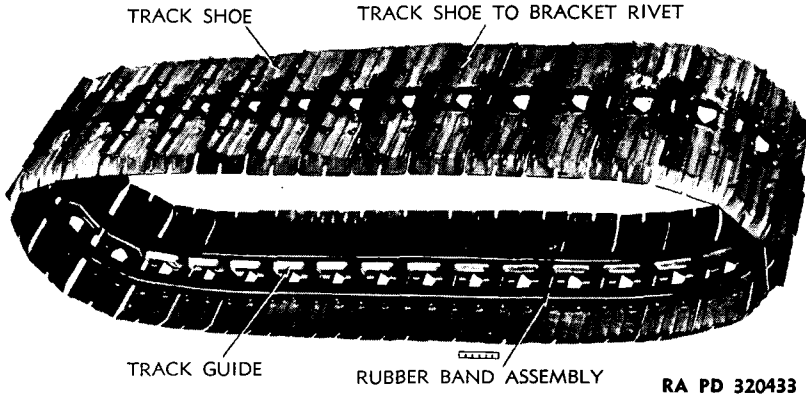

Figure 22 — Track Assembly
a. Description. The track (fig. 22) is of the steel-shoe, endless-rubber-belt type. The shoes are connected by the endless rubber belts which are reinforced with embedded steel cables. Each shoe has two cleats to improve traction. The shoes are rubber covered. The track guides and shoes are riveted to brackets on the rubber belts. The brackets are held in place by the steel cables in belts. The track guides run through guide grooves in track sprocket, rear idler, support roller, and bogie wheels. The track assembly is driven by the track sprocket.